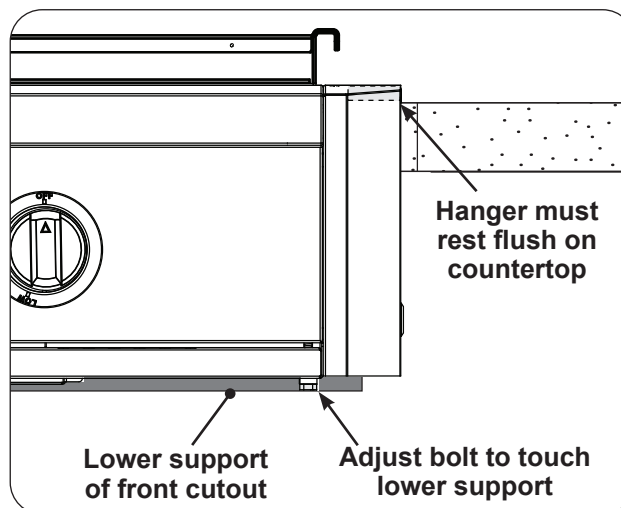

Fig. 28-3 Front support adjustment bolts
3. Rotate the front support adjustment bolts (up or down) until the griddle hanger rests flush on the countertop, AND, the adjustment bolts are touching the supporting structure found at the bottom of the cutout (lower support). Use a $\frac{7}{16}$ " open-end wrench as needed. See Fig. 28-3.